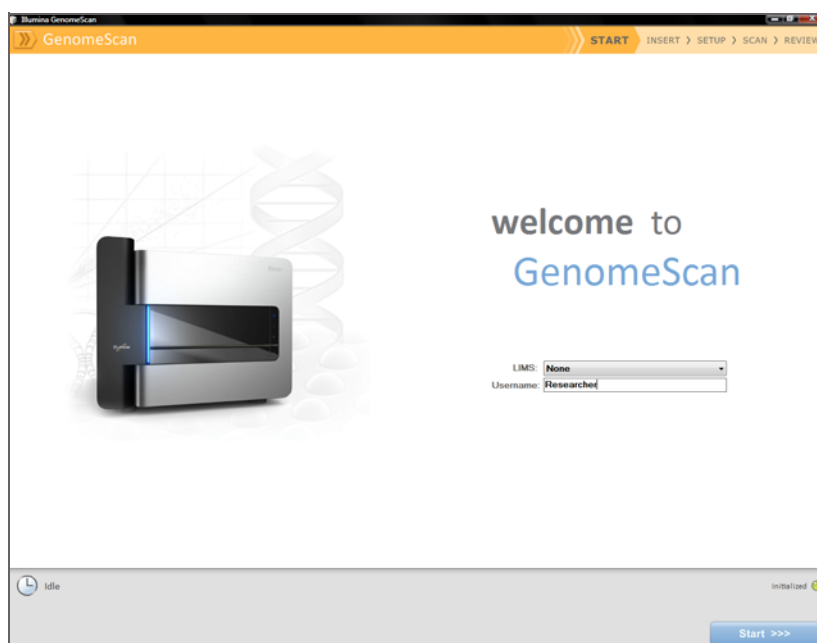

Figure 184 Welcome Window
5. Set the **LIMS** dropdown list to **None** and enter your Windows user name (Figure 184).